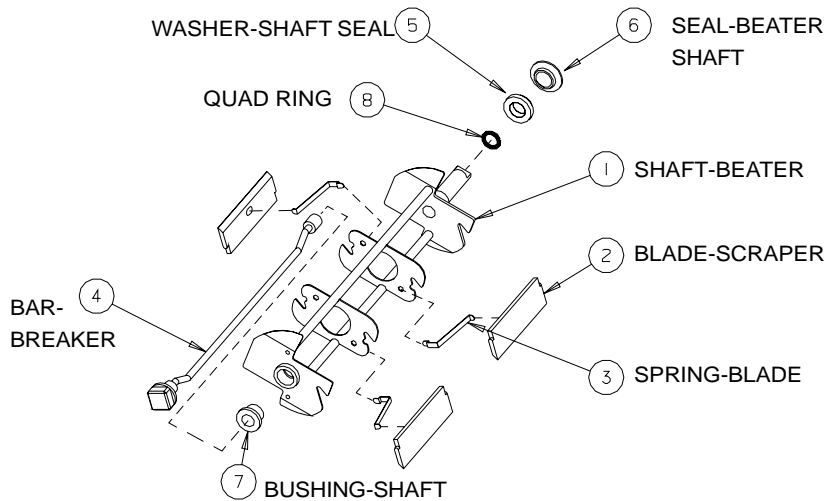
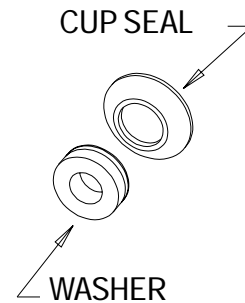

Figure 6-3 Beater Shaft
Figure 6-4 Shaft Seal Assembly
2. Remove the ball knob (6), nut (5), air bleed plug (4) and outlet valve (7) from the head (1).
3. Remove the piston assembly (10, 11, 12, 13) and spring (9) by pushing the piston rod (13) through the back of the head (1).
4. Remove the o-rings (11, 12) from the piston assembly. Remove the o-ring (8) from the outlet valve (7). Remove two o-rings (3) from the air bleed plug (4).
5. Remove the head o-ring (14) from the head (1).
6. Remove the beater shaft (figure 6-3, item 1) from the cylinder.
7. Remove scraper blades (2), springs (3), seal (5 and 6), quad ring (8), breaker bar (4), and bushing (7) from the beater shaft (1).
8. Remove the cup seal from the plastic washer on the shaft seal assembly as shown in figure 6-4.